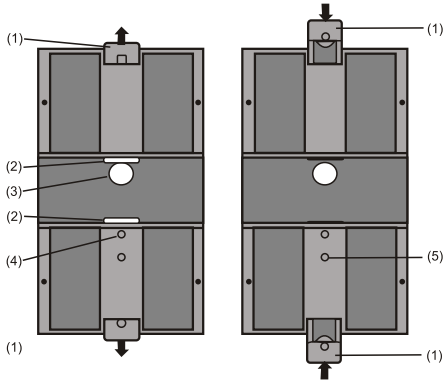

Fig. 5. Rear of device.
While pressing the latch (4) in the base of the device (Fig. 5, left) pull out the isolating amplifier securing brackets (1). To return the brackets to their original positions, the latch (5) in the base of the device has to be depressed before applying pressure to the securing brackets (1) (See Fig. 5, right).